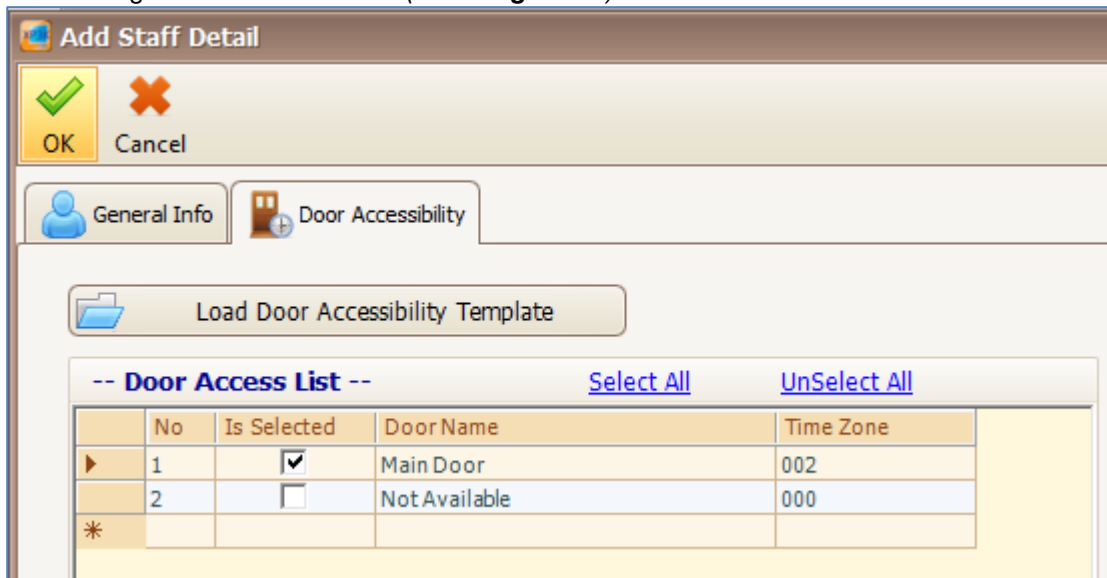

Figure 73 - Loaded Door Access
15. The following screen will be shown (Refer **Figure 73**).